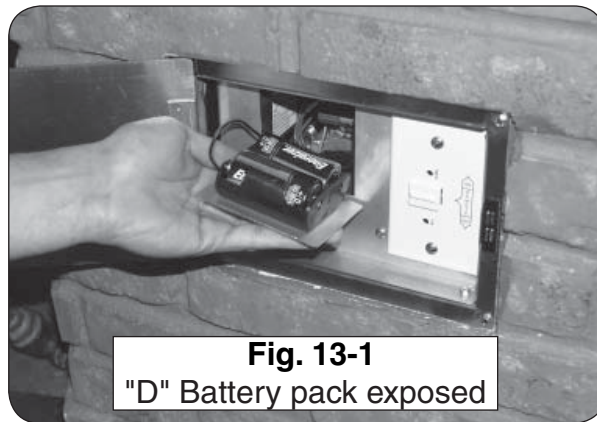

Fig. 13-1
To access the "D" battery pack, unscrew the access plate on the left side of the control panel. Only unscrew the large retaining screw. Grip the top half of the access plate and pull it out to expose the "D" battery pack (Fig. 13-1). Replace the old batteries with two (2) new "D" batteries. Return the access plate into the control panel. Screw in the large retaining screw.